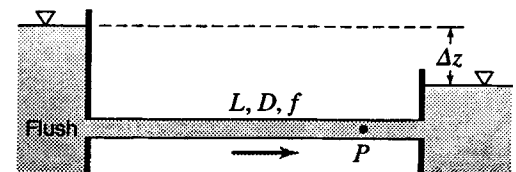

Figure P8.60
8.60 A 12-in-diameter pipe ( $f = 0.028$ ) 450 ft long runs from one reservoir to another, both ends of the pipe being under water (Fig. P8.60). The intake is square-edged. The difference between the water surface levels of the two reservoirs is 150 ft. Find (a) the flow rate, and (b) the pressure in the pipe at a point 320 ft from the intake, where the elevation is 135 ft lower than the surface of the water in the upper reservoir.